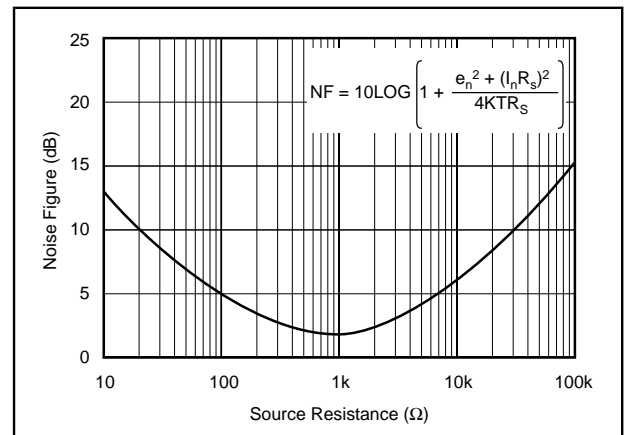

FIGURE 9. Noise Figure vs Source Resistance.
The OPA643 voltage and current noise spectral densities are specified in the Typical Performance Curves. For RF applications, however, Noise Figure (NF) is often the preferred noise specification since it allows system noise performance to be more easily calculated. The OPA643's Noise Figure vs Source Resistance is shown in Figure 9.